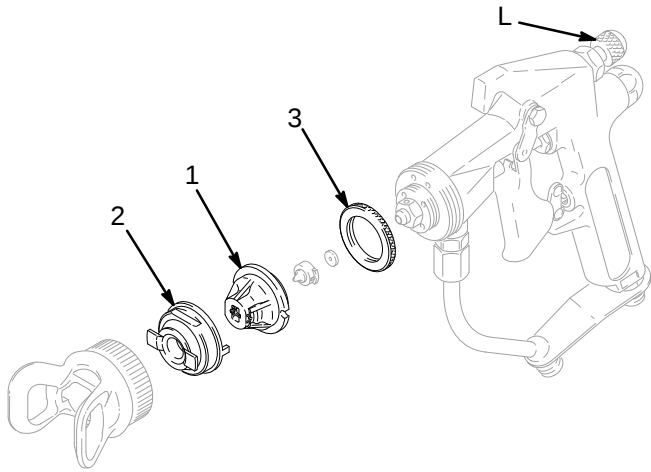

Fig. 3 03430
When the air cap conversion kit and GG3 spray tip are installed, the AA200HS spray gun will operate the same as before except that the pattern adjustment knob (L) will no longer control the pattern width. See Fig. 3. If a different pattern width is required, a different tip size must be selected. See the chart, at right.
If the sealing ring (3) is installed with the kit, the operator can control the atomization air with the pattern adjustment knob (L). See Fig. 3. Turning the knob fully clockwise (fully open) will give maximum flow. Turning the knob fully counterclockwise (fully closed) will result in near airless operation. For maximum cleanliness and minimum over-spray, use just enough air to eliminate the tails at the ends of the fan spray pattern.